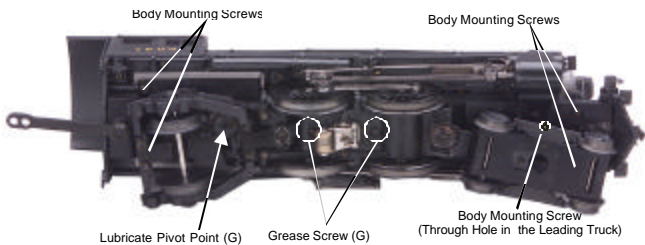

Figure 7. Location of Body Mount Screws and Greasing Points on the Locomotive
You should also grease the leading and trailing locomotive truck tongues to enhance their ability to slide on the chassis. Follow the grease points shown on Fig. 7.
1. Remove the boiler shell from the chassis as shown in figure 7 on page 12.
1. Remove the boiler from the engine (see Fig. 7 on pg. 12). To do this, unscrew the leading truck bracket and move it aside to access the front body mount screw. Remove the one front and two rear body mount screws and carefully lift the boiler from the chassis, being careful to leave the wires attached.